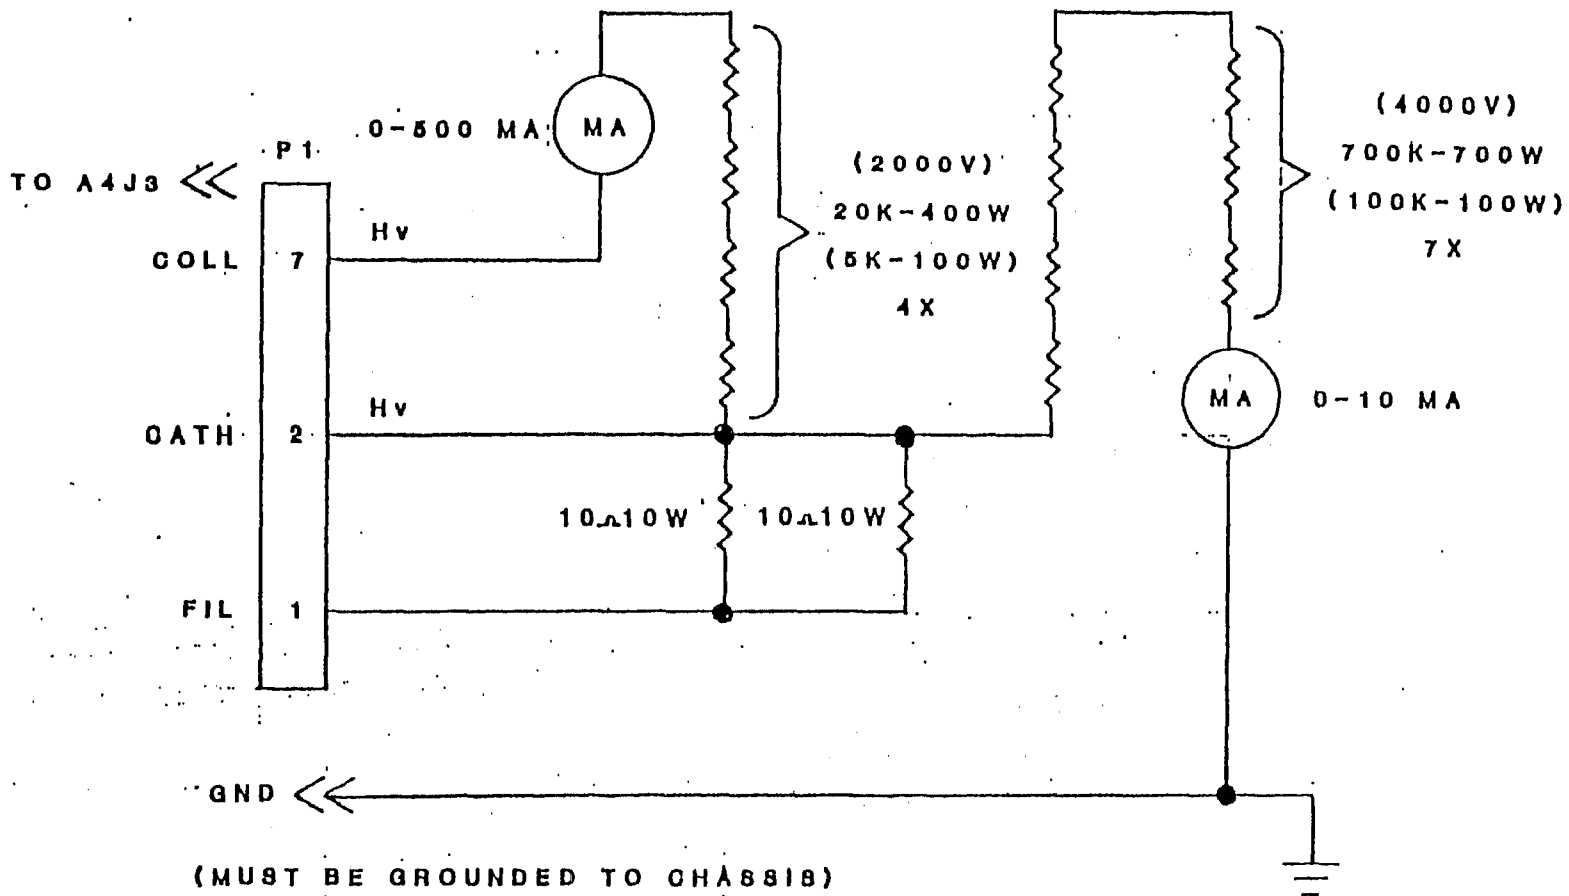
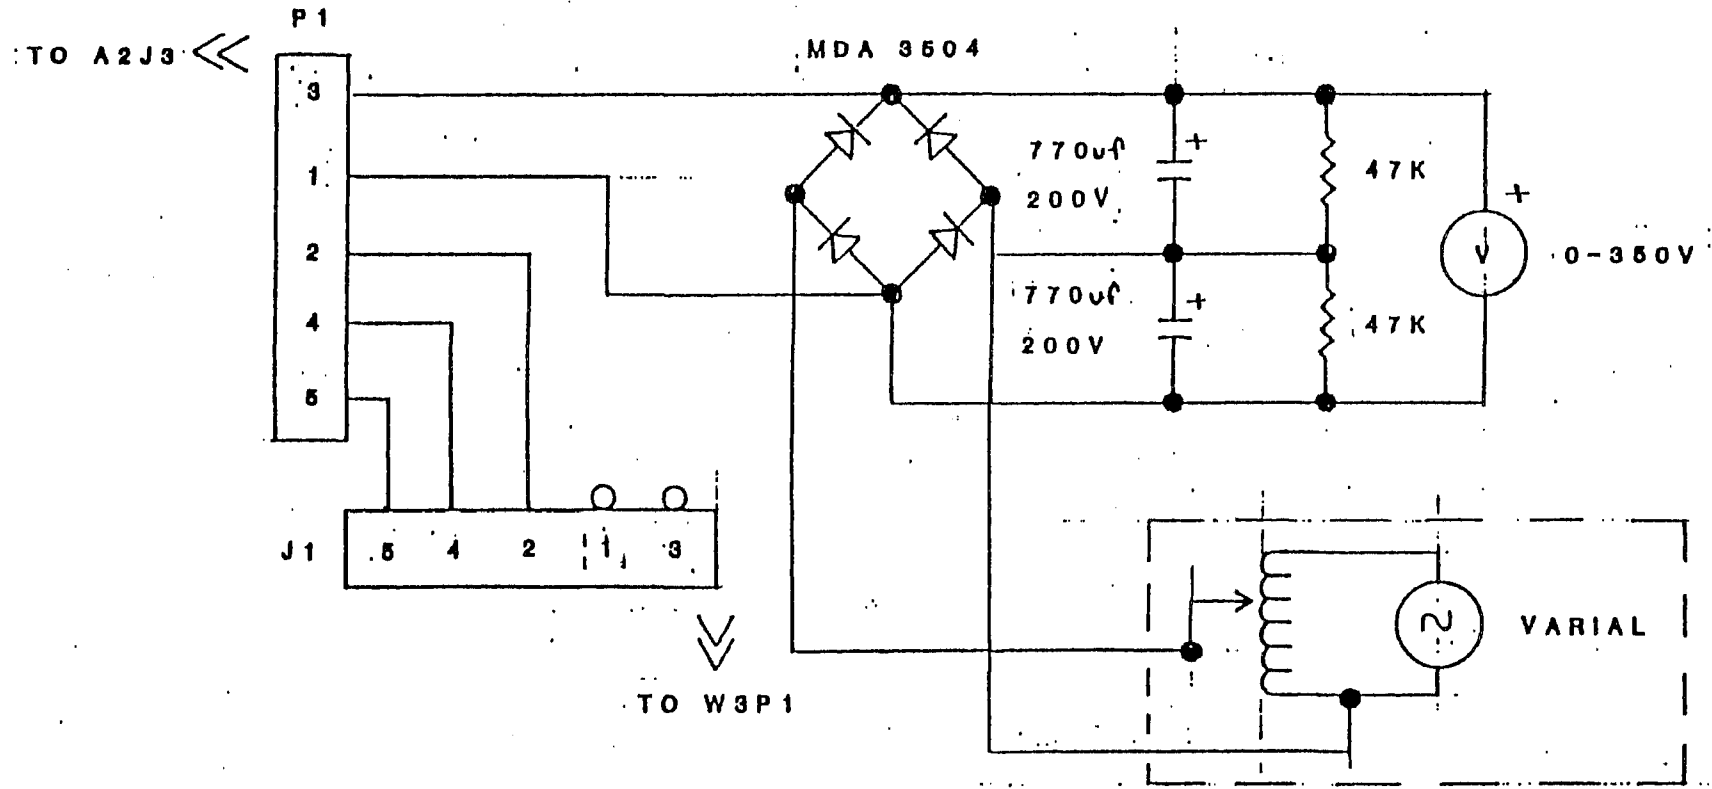

Figure 4-1. Resistive Load Network
Figure 4-2. Test Fixture for HV Test
The Resistive Load Network diagram is shown in Figure 4-1 and Test Fixture for HV Test diagram is shown in Figure 4-2.
4.4.1 Connect A1A2J3 to HV test fixture. Connect plug from A1A2J3 into HV Test fixture as shown in Figure 4-2.